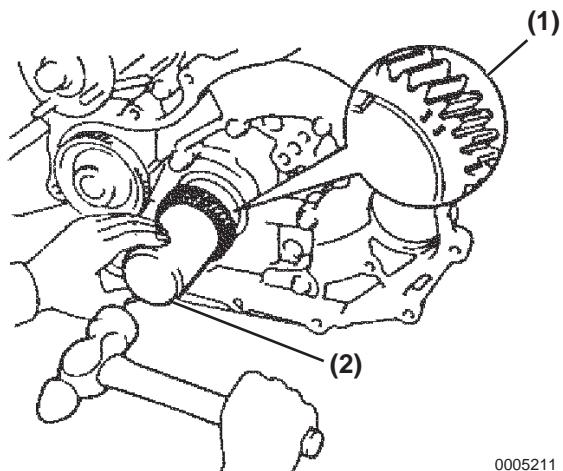

Figure 5-211
1. Install the timing gear with its timing mark (**Figure 5-211, (1)**) facing to the front.
3. Tap in the timing gear using a suitable tool (**Figure 5-211, (2)**) to install.